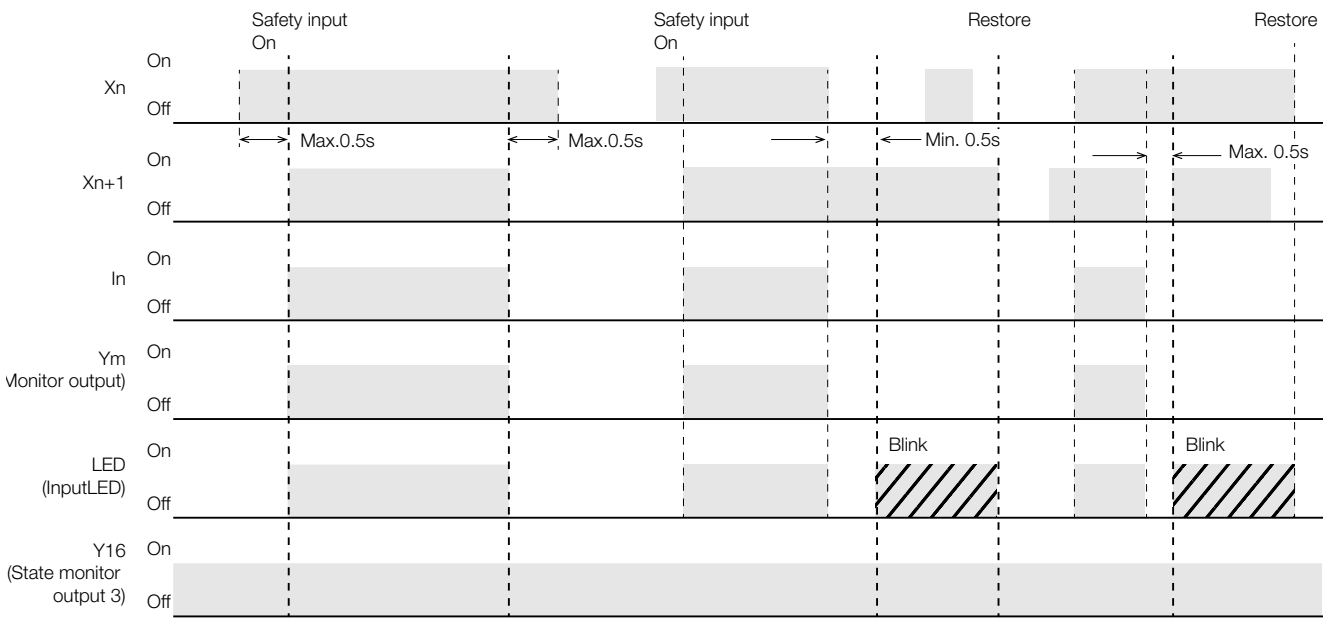

Figure 5.143 Operation timing of dual channel direct opening input function
The operation timing is described in figure 5.143.
- If only one receive circuit ( $X_{n+1}$  in the figure 5.143) is turned off while two of receive circuits ( $X_n$ ,  $X_{n+1}$ ) are on fault in safety component or input circuit (welding of contacts, short circuit in wiring or input circuit error, etc.) and then turned on again, even if the time is less than 0.5s, an alert condition will occur and the input LED will blink. The function output is not turned on at that time.